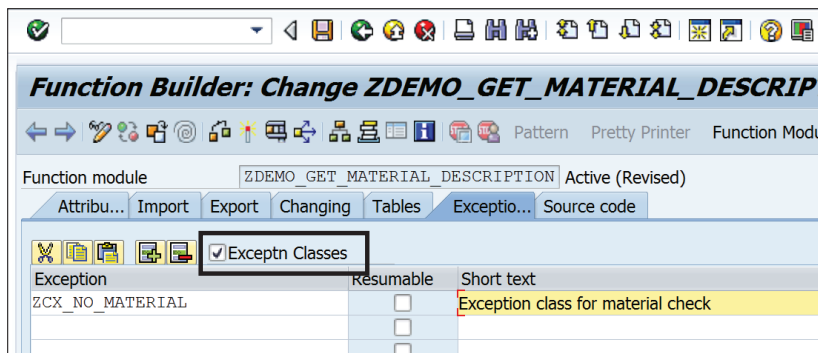

Figure 9.17 Maintaining Exception Class in Function Module
6. The exception class now can be used in your programs to raise an exception. In function modules and methods of a global class, you need to select the `EXCEPTION CLASSES` checkbox to maintain the exception class, as shown in Figure 9.17.